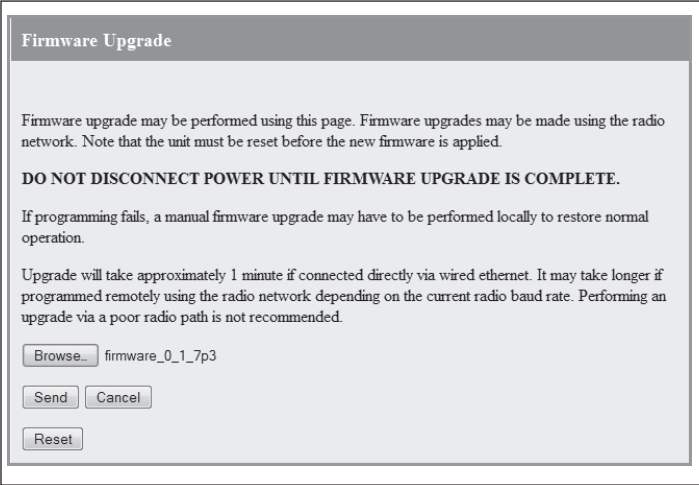

Figure 41. Firmware upgrade
- Make sure that the module serial number on the feature key certificate (**Figure 41**) matches the serial number on the label on the left side of the module.